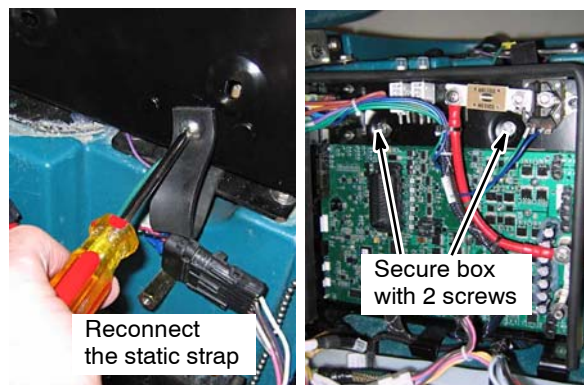

Fig. 5
- Reconnect the static strap to the new control box and secure the box to the machine (Figure 5).